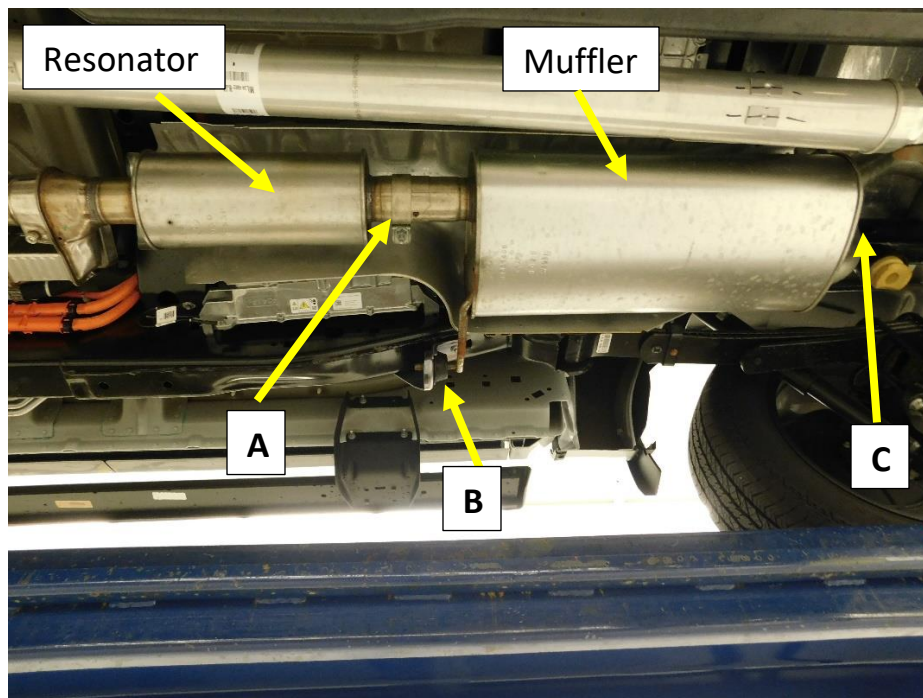

Figure 6
- Loosen the clamp at the slip joint between the muffler and the resonator (A). Fig .6
- Remove the (x3) bolts at the muffler hanger on the frame rail (B). Fig. 6
- Remove the bolt from the muffler hanger over the muffler and remove the hanger from the cross brace (C). Fig. 6